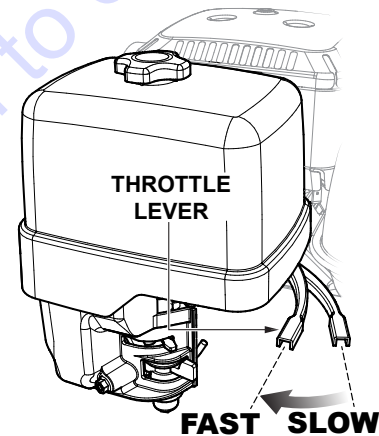

Figure 24. Throttle Lever Adjustment
3. Move the throttle lever (Figure 24) away from the **SLOW** position, about 1/3 of the way toward the **FAST** position.